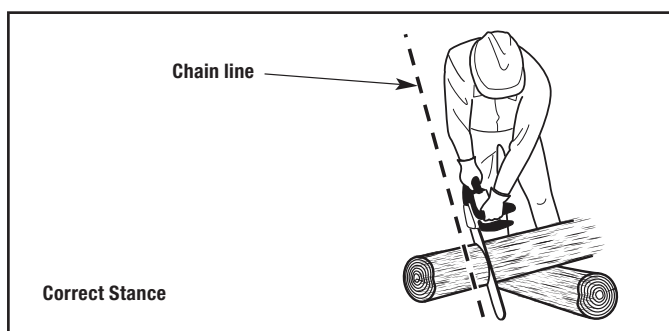
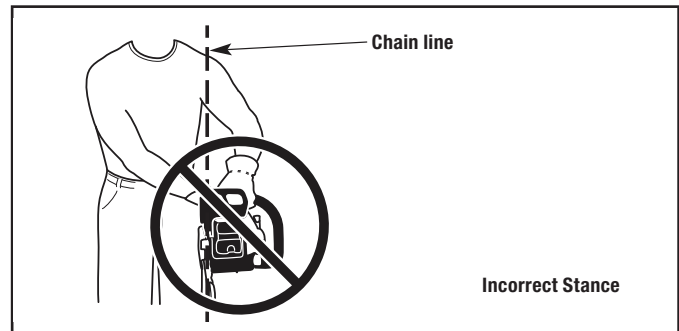

Figure 7
Figure 8
- Use these hand placements whether the operator is left-handed or right-handed. This will help keep the operator slightly to the left of the chainsaw and out of the direct line of the chain saw if kickback occurs (Fig. 7 and Fig. 8).